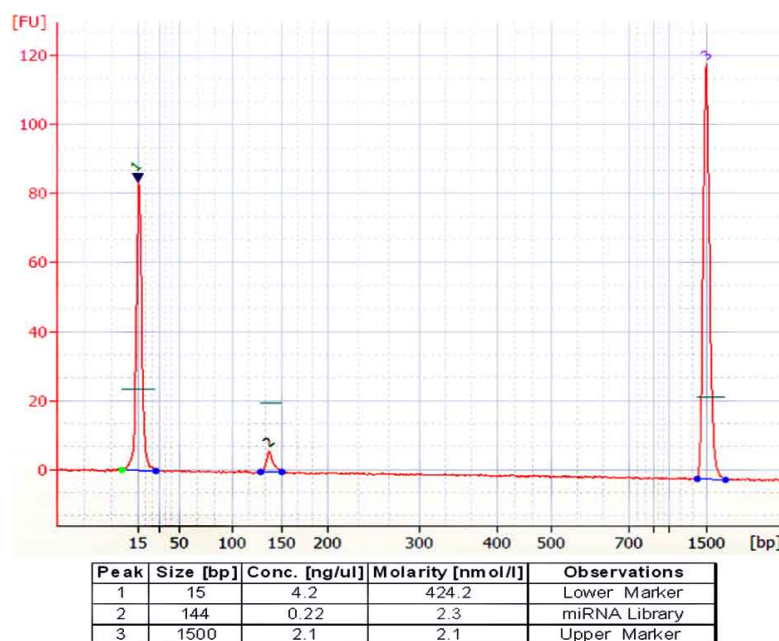

Figure 5 MicroRNA Library Bioanalyzer Profile on a DNA-1000 Chip (1:2 diluted)
1. Assess the yield and size distribution of the size selected DNA use the Agilent 2100 Bioanalyzer Instrument with the DNA 1000 Kit (Figure 5), or High Sensitivity DNA Kit if necessary. Determine the peak size (bp) and molar concentration (nM) of the library.